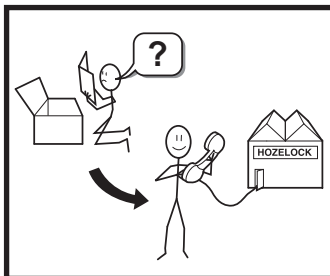

Fig. 1
2. Remove the Wildlife Protection system (Fig1 – a).
3. Remove & unpack the ball joint, hoses & outlet adaptor (Fig 1 – b, c & d).
Note: 1000 model: The pump locates into a cradle that is fixed to the lower cage (Fig 1 - g).